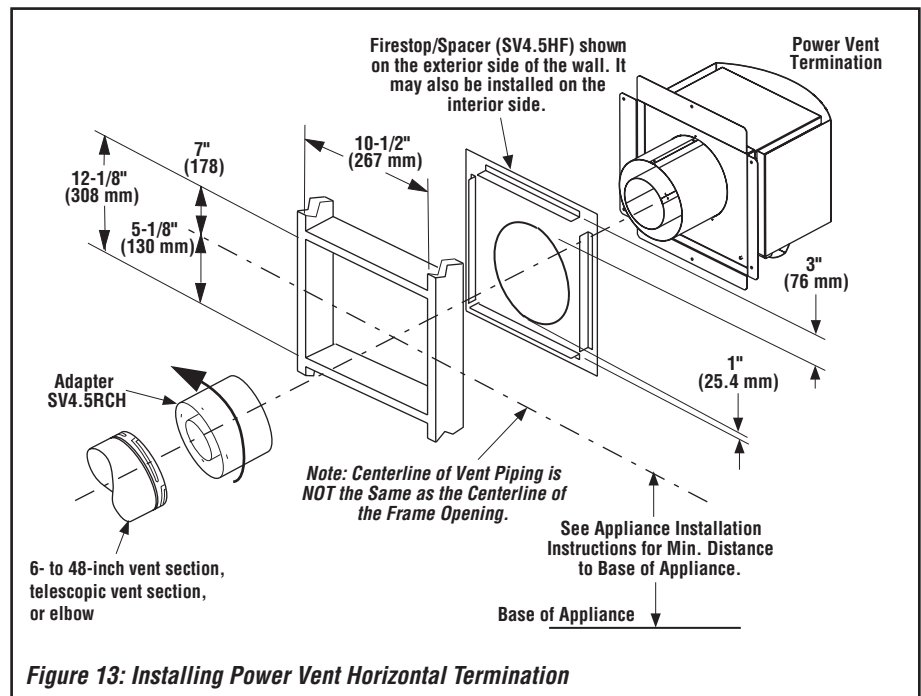

Figure 13: Installing Power Vent Horizontal Termination
- 8.2. See *Figure 13*. Attach the **termination adapter** (SV4.5RCH) [#12] to the last vent section. Attach the termination adapter in the manner shown in *Figure 4*, “**Connecting Secure Vent™ Components.**”
- 8.3. See *Figure 13*. Install the **firestop/spacer** (SV4.5HF) [#13]: